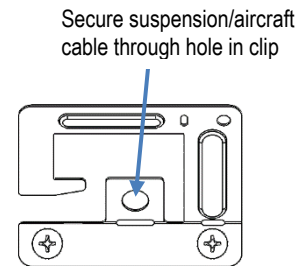

FIG. 11: SUSPENSION MOUNTING
- a. Use hanger wire holes at all 4 corners and appropriately rated hanging cables (not included) to suspend fixture. See figure 11.